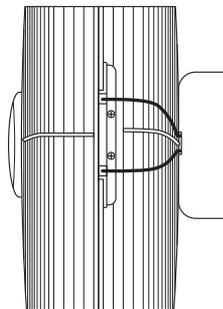

FIGURE 11
26. Align the two ends of the Interlock Bracket with the two notches in the tab on top of the Front Grille. Press the two ends of the Interlock Bracket into the two notches of the tab on the top of the Front Grille. See Figure 11.